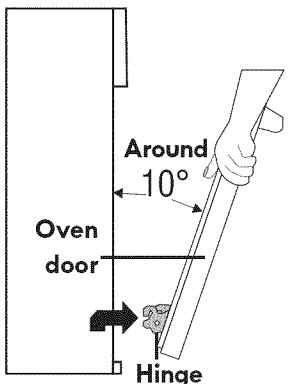

Figure 4C
- 3 Firmly grasp both sides of oven door along the door sides (Do not use the oven door handle- See Figure 4C).